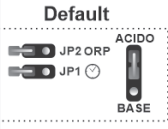

Fig. 11
- ELECTRODE SELF-CLEANING System: The reversal frequency can be selected by means of jumper "JP1" on the system control panel (Fig. 11). This configuration will become effective by disconnecting and connecting again the equipment.